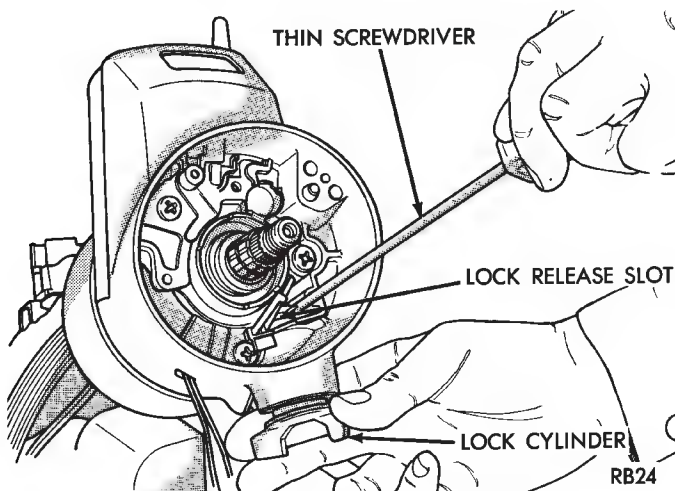

Fig. 7 Key/Lock Cylinder Removal
(14) Turn ignition key/lock cylinder to the ON position. Insert a thin screwdriver into the slot adjacent to the switch attaching screw boss (right-hand slot). Depress the spring latch located at the bottom of the slot to release the key/lock cylinder. Remove the key/lock cylinder. (Fig. 7).